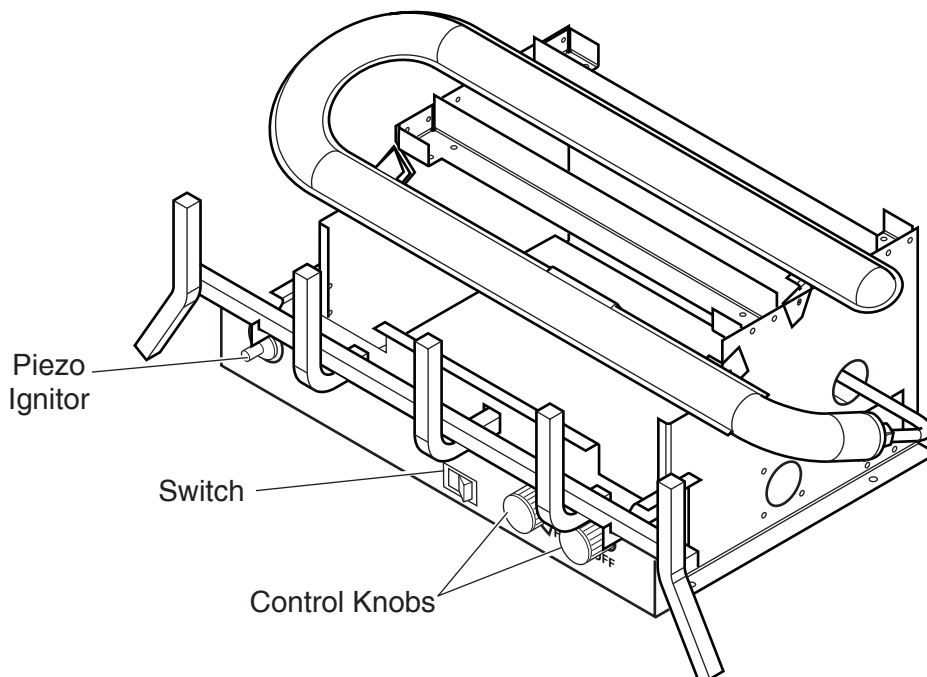

Figure 35 - Location of Piezo Ignitor, Control Knobs and Switch on Millivolt Unit
4. See Figure 35, page 26 for the location of the piezo ignitor and control knob. Push in gas control knob slightly and turn control knob clockwise to the OFF position.